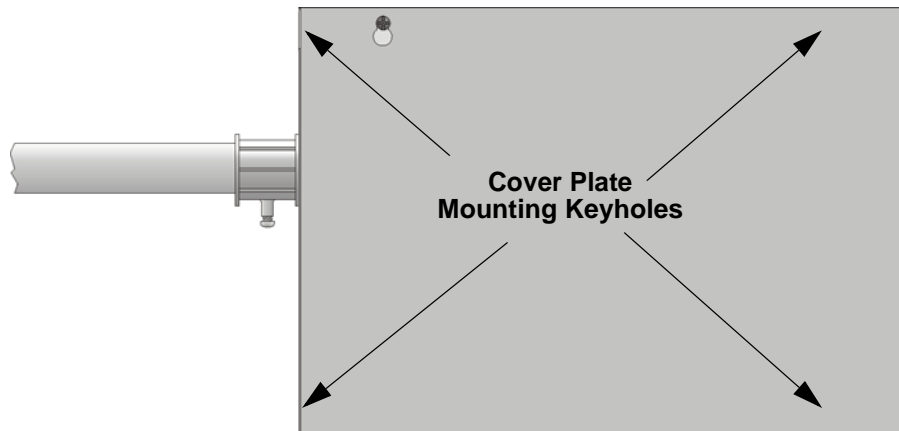

Figure 4-8 Cover Plate Mounting Keyholes and Cover Mounting Screws Alignment
- Align the cover plate mounting keyhole over the cover mounting screws. See Figure 4-8.
- Slide the cover into place and tighten the cover mounting screws. See Figure 4-8.